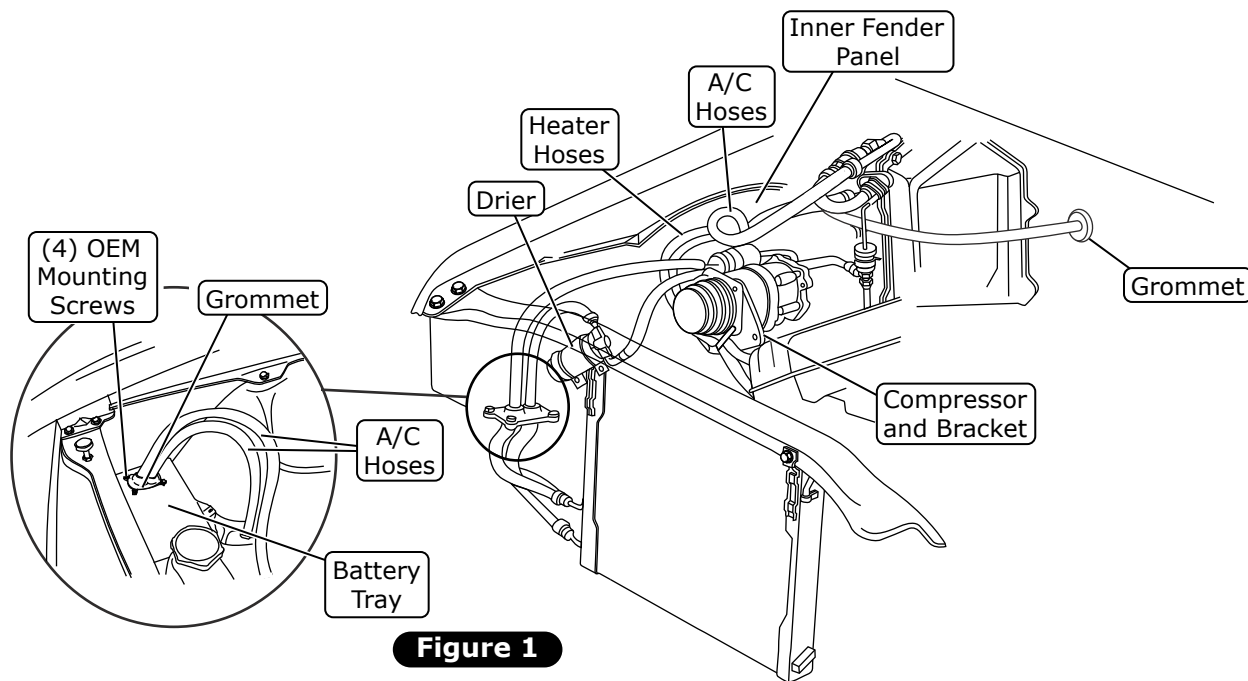

Figure 1
4. Remove the OEM condenser and drier (discard) (See Figure 1, below).
5. Remove the OEM compressor and bracket (discard) (See Figure 1, below).
7. Remove the OEM heater hoses (discard) (See Figure 1, below).
8. Remove the OEM A/C hoses and firewall grommet (discard) (See Figure 1, below).